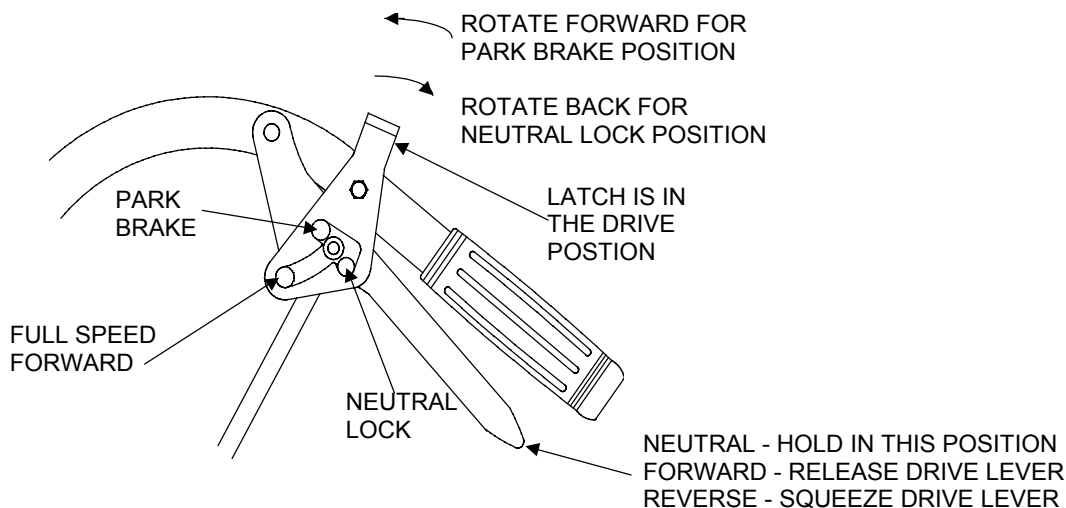
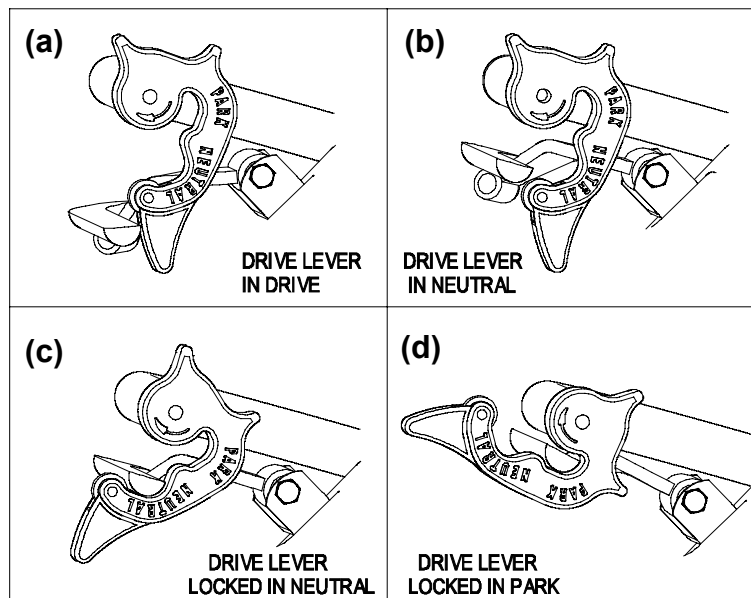

FIGURE 16
FIGURE 17
- 3.14 Adjust brakes by adjusting wingnut on the upper end of each brake rod. Tighten the wingnut until the brakes engage when the drive levers are squeezed enough to allow the neutral lock/park brake latches to be placed into the “park brake” position. See Figure 16 for Standard Pistol Grip handles and Figure 17 for ECS handles.
For Standard Pistol Grip Handles: To lock the drive levers in “neutral”, squeeze the drive levers back to the neutral position. Place thumbs on the upper portion of the neutral lock/park brake latches and move them to the rear. Release the drive levers (See Figure 16).
To lock the levers in “park brake”, squeeze the drive levers back to the brake position. Place thumbs on the upper portion of the neutral lock/park brake latches and move them to the front. Release the drive levers (See Figure 16).
For ECS Handles: To lock the drive levers in **“neutral lock”**, squeeze the drive levers to the “neutral” position. See Figure 17 (b). Place thumbs on the inner thumb lobe of the neutral lock /park brake latches and rotate them to the “neutral” position. See Figure 17 (c). Release the drive levers.
To lock the drive levers in **“park brake”**, squeeze the drive levers farther to the “brake” position. Place thumbs on the inner thumb lobe of the neutral lock/park brake latches and rotate them to the “park” position. See Figure 17 (d). Release drive levers.
To place the drive levers in the **“drive”** position, slightly squeeze the drive levers while placing thumbs on the outer thumb lobe of the neutral lock/park brake latches (or the index finger on the front lobe) and rotate them from under the drive levers. **Slowly** and **carefully** release the drive levers. See Figure 17 (a).